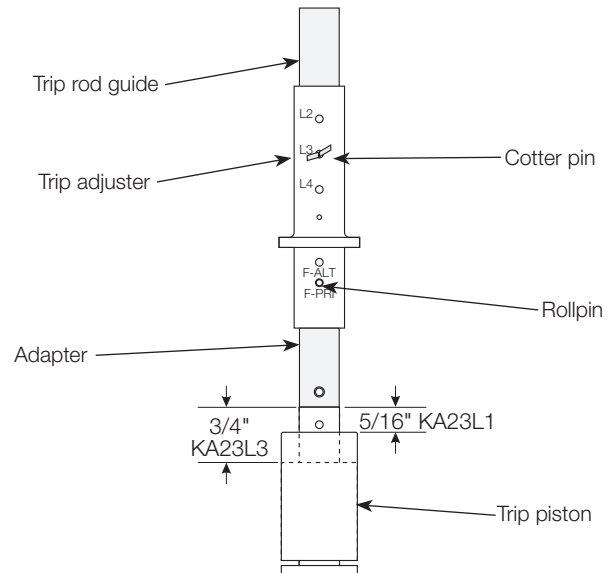

Figure 22. Adjustments for sequence and number of operations to lockout
1. To change operating sequence the trip piston is repositioned to the desired number of fast trip operations, refer to Figure 22.